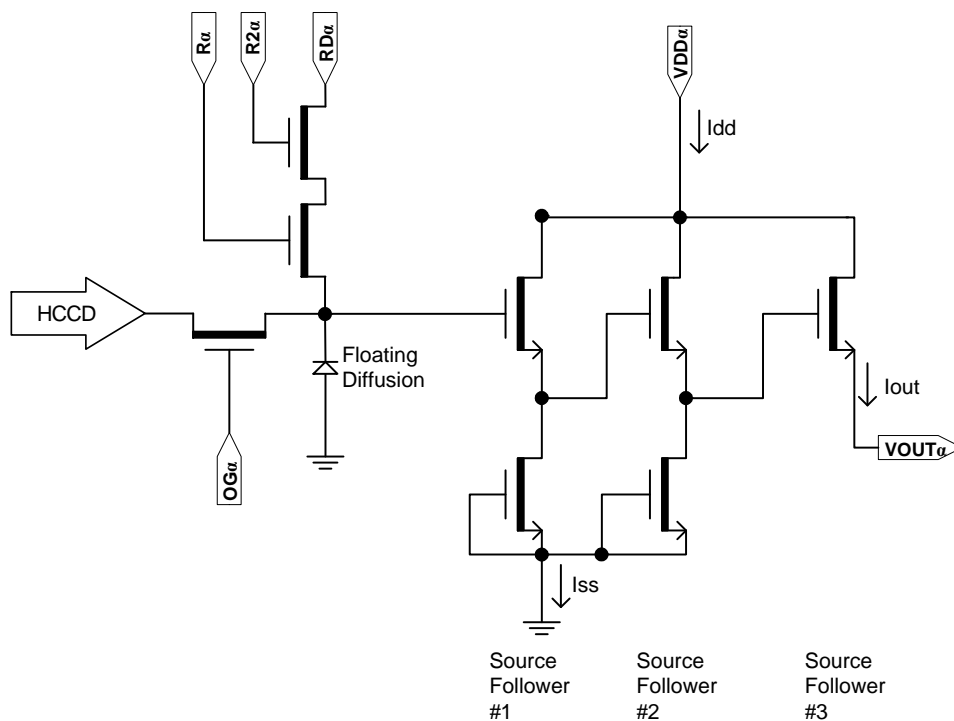

Figure 21. Output Amplifier – Showing Dual Reset Pins
2. The maximum DC current is for one output. $I_{dd} = I_{out} + I_{ss}$. See Figure 21.